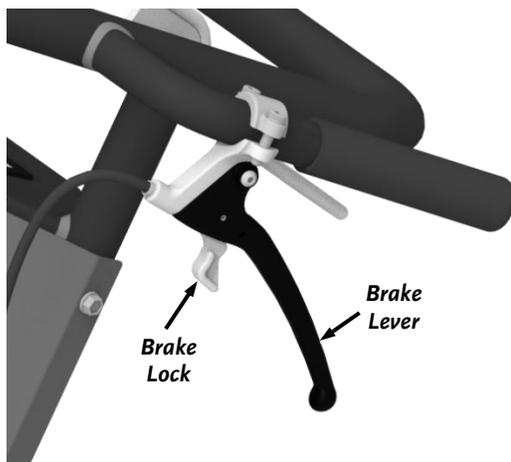

Figure 30
1. Disengage the Brakes by pulling back on the Brake Locks and releasing the Brake Levers (**Figure 30**).